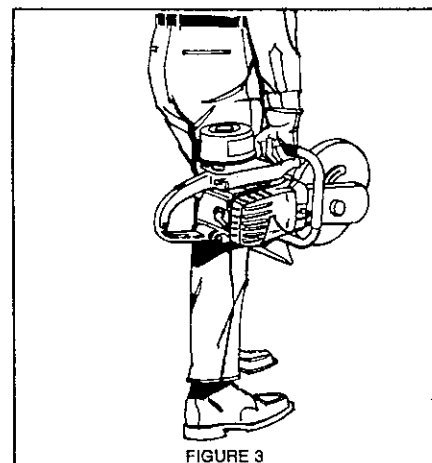

FIGURE 3
11. **DO** always carry the machine with the engine stopped and the muffler away from your body (Fig. 3).